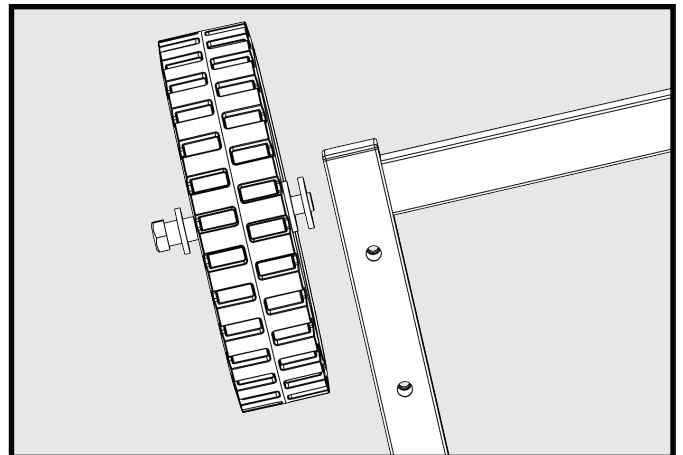

FIGURE 2
2. Insert M12 flat washer (15) onto shoulder bolt (14) (Fig 2).
3. Insert shoulder bolt (14) through rear wheel (13).
4. Place another M12 flat washer (15) between wheel and base.
5. Tighten shoulder bolt. (14)